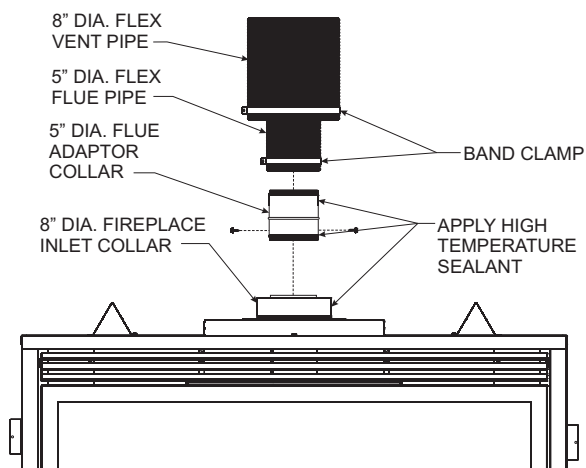

Figure 71
9. Apply sealant to the outside of the flue pipe adapter and connect to the flex flue pipe. Then insert the adapter into the fireplace flue. Secure flue adapter to the fireplace flue with a minimum of two screws provided. See Figure 71.